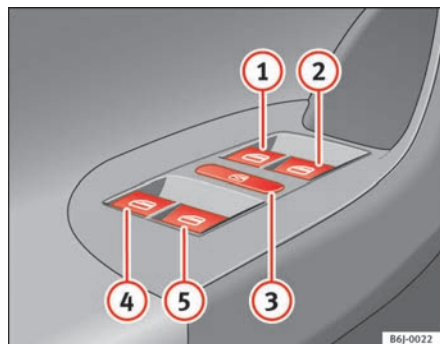

Fig. 48 Detail of driver door: controls for the front and rear windows
The buttons ⇒ page 84, fig. 48 ①, ②, ④ and ⑤ have two levels for opening the window and two for closing it. This makes it easier to open and close windows to the desired position.